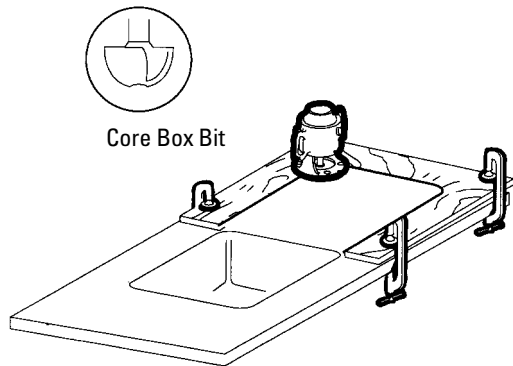

Figure 36
- Rest the template end near the bowl on the sheet (see Figure 36).
- Clamp securely, being careful not to flex the sides of the template (see Figure 36).
- Rout the perimeter design into the top using a core box bit with an altered tip (see Figure 36).